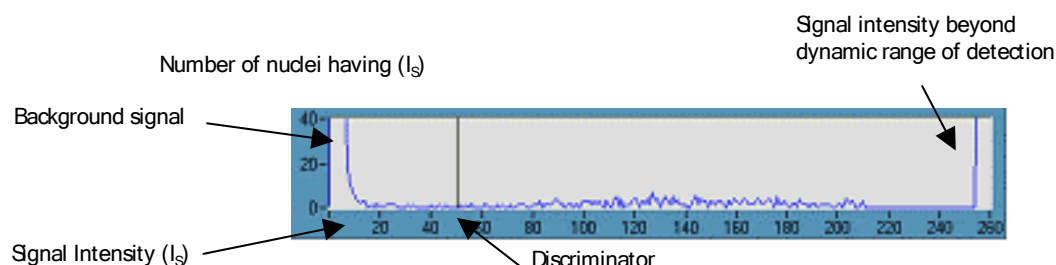

Figure 19 The object intensity histogram.
The object intensity histogram is shown below the image of the nuclei, see figure 19 The object intensity histogram. It shows the distribution of the number of fluorescence signals (particles) as a function of the intensity of the objects. In other words, the unit of the x-
The stained nuclei give rise to higher signal intensities, which is illustrated in figure 19, as the rise in the number of signals to the right of the background signals. There is often an increase in the number of signals at the maximum intensity (255). These signals originate from stained nuclei having fluorescence intensities, which exceed the dynamic range of the detection system. These nuclei are also included in the counts.